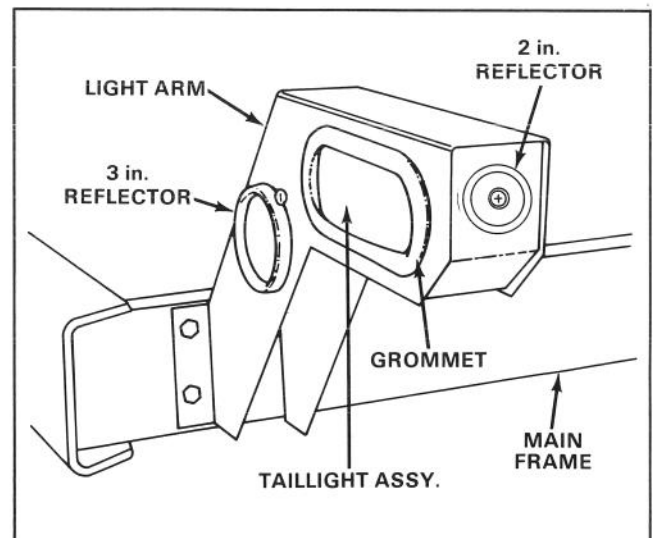

Figure 12
1. Insert a 10-24 x 1/2 in. machine screw through the 2 in. red reflector, mount to the outer end of each arm and secure to arms with a keps nut (Fig. 12).
2. From inside each arm install a 3 in. red reflector into each mounting hole and secure the assemblies to the arms with 10-24 x 1/2 in. machine screws and keps nuts (Fig. 12).
3. From the outside of each arm, install a grommet into each mounting hole for the tail lights (Fig. 12).
4. Insert a tail light into each grommet (Fig. 12).
5. Align each arm with the frame mounting holes and secure to the frame with (4) 3/8 - 16 x 1 in. hex head flange screws, 3/8" lock washers and 3/8 - 16 hex nuts (Fig. 12).